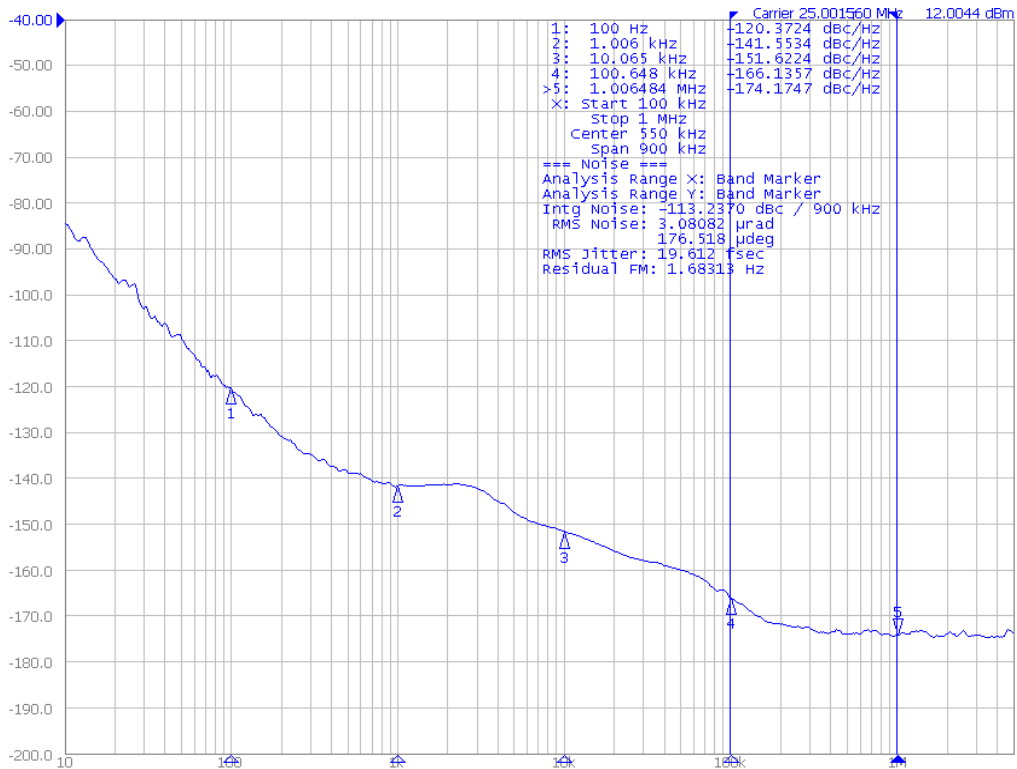

Figure 5. Typical Phase Noise Plot of the NB3H83905C Operating at 25 MHz $V_{DD} = V_{DDO} = 3.3$ V
4. Parallel terminated 50 Ω to $V_{DDO}/2$ (see Figure 5).